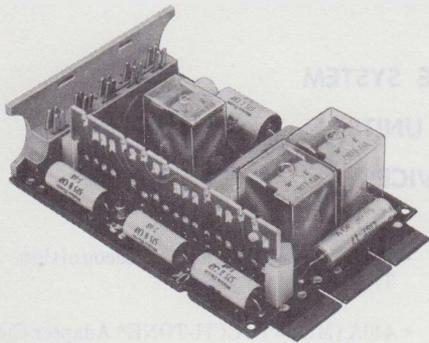

Fig. 1—Typical 4-Inch Key Telephone Unit
1.01 This section provides schematic information for the 400-series KTUs which provide talking circuits and control and signaling functions between telephone sets in a 1A2 KTS (Fig. 1 and 2).
1.05 All circuit components on these KTUs are mounted in a plug-in printed wiring board, one end of which is equipped with contacts. A 4-inch board may have 18, 20, or 40 contacts; an 8-inch board will have 80 contacts (requiring two vertical 40-pin connectors). The circuit boards plug into mating connectors in key service units, panels, or apparatus mountings. Wiring from the connectors will be dedicated or nondedicated leads. Dedicated leads are those that normally appear on the same contacts of all KTUs, such as supply voltages and grounds, and are normally factory-wired. Nondedicated leads are those whose designation and function vary and are made available for installer connections. Fig. 1 and 2 show typical 4- and 8-inch KTUs.